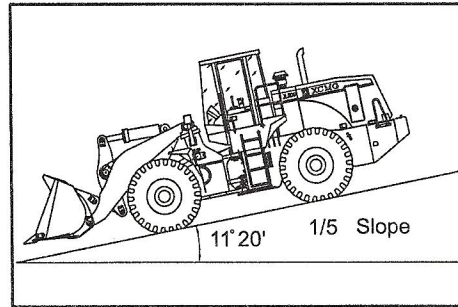

Fig. 05-34
- (2) Step down the brake pedal to stop the machine, and place the gear-selector joystick at neutral position, afterwards, shut off the engine.
- (3) Get the parking brake switch engaged, then release gradually the foot brake pedal and check if the machine still maintains at its original position.
- △ Make such testing in two times: one is for the case of up-slope, and one is for the case of down-slope (See Fig. 05-34).